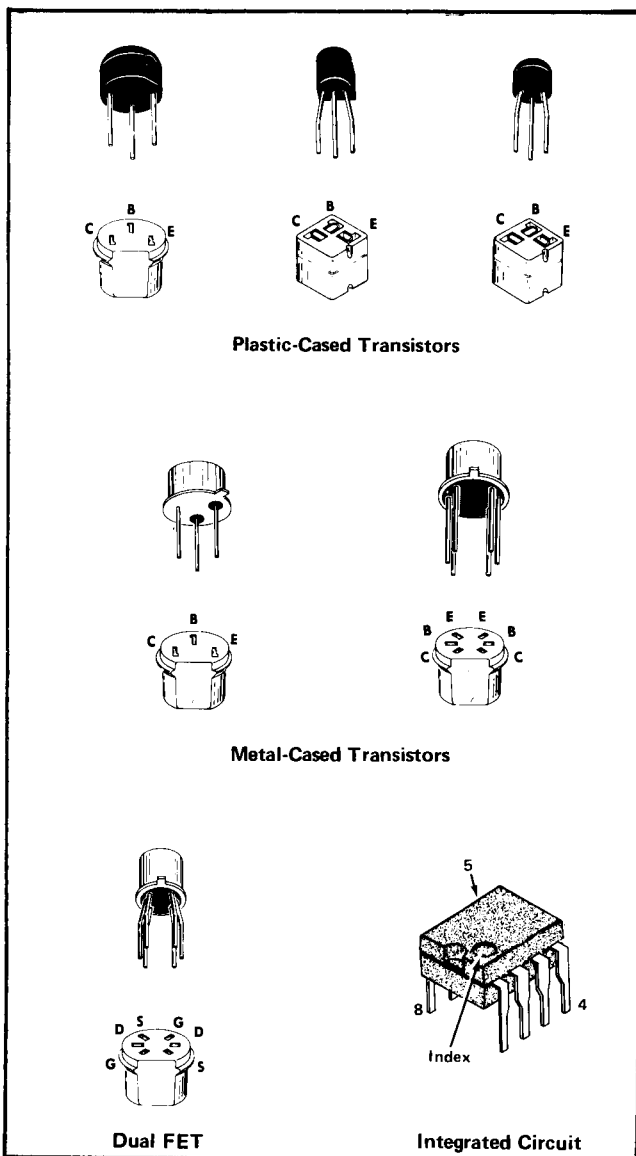

Fig. 4-1. Electrode configuration data of semiconductor devices.
Semiconductor Lead Configuration. Fig. 4-1 shows the lead configuration of the semiconductor devices used in this instrument.
A. TRANSISTORS and INTEGRATED CIRCUITS. The best check of transistor and integrated circuit operation is actual performance under operating conditions. If a transistor is suspected of being defective, it can best be checked by substituting a component known to be good; however, be sure that circuit conditions are not such that a replacement transistor might also be damaged. If substitute transistors are not available, use a dynamic tester (such as Tektronix Type 576). Static-type testers may be used, but since they do not check operation under simulated operating conditions, some defects may go unnoticed. Fig. 4-1 shows base pin and socket arrangements of semiconductor devices. Be sure power is off before attempting to remove or replace any transistor or integrated circuit.